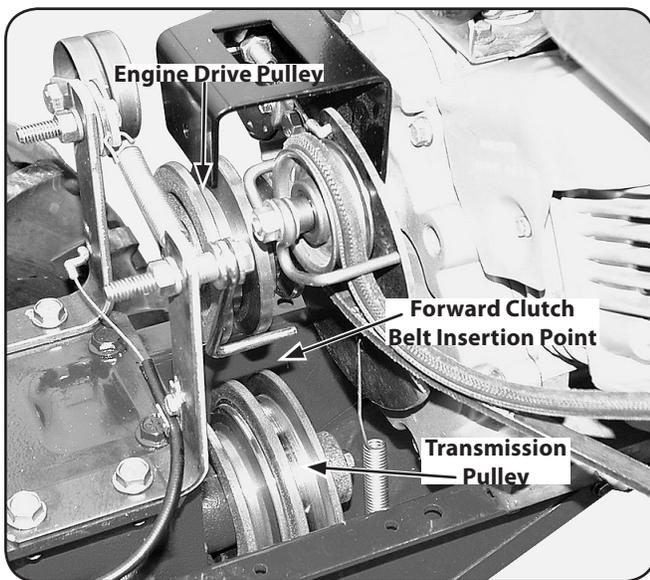

Figure 7-5
- From the front of tiller, insert the forward clutch belt in between the bottom of the engine drive pulley and the top of transmission pulley. See Fig. 7-5.
- Reinstall the reverse clutch belt. Insert the bottom of the belt into the frame, then pull down on the belt and roll it onto the large, forward-most groove of the transmission pulley. See Fig. 7-5.